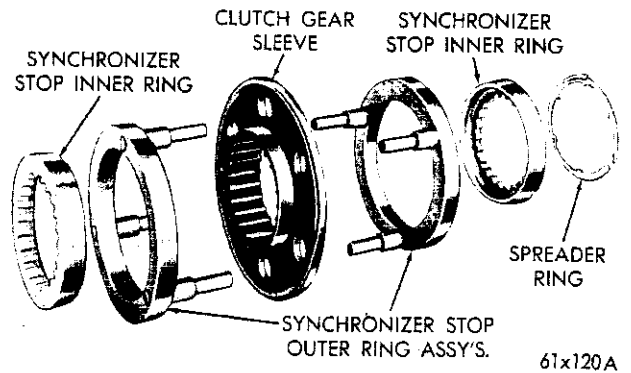

Fig. 5—Synchronizer Assembly
(1) Remove the mainshaft rear bearing snap ring from the groove in the mainshaft rear bearing bore in the case.
(2) Slide the mainshaft and rear bearing assembly to the rear, until the rear bearing is out of the case.
(3) Remove the synchronizer assembly (Fig. 5) from the mainshaft and out of the case.
(4) Remove the second and third speed shift fork.
(5) Remove the synchronizer clutch gear snap ring using Tool C-484.
(6) Remove the synchronizer clutch gear, second speed gear and first and reverse sliding gear from the mainshaft.